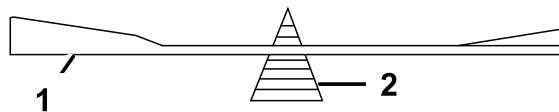

Figure 89
2. Check the balance of the blade by putting it on a blade balancer (Figure 89).